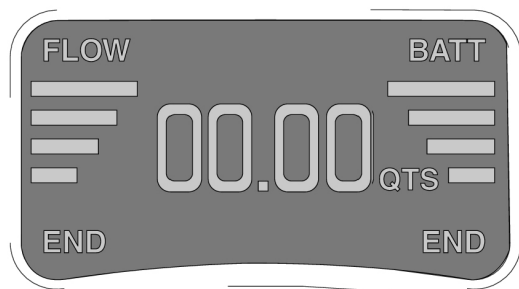

FIG. 10
- When the trigger is fully engaged, the flow rate is high and is indicated by four bars on the display. See FIG. 10.